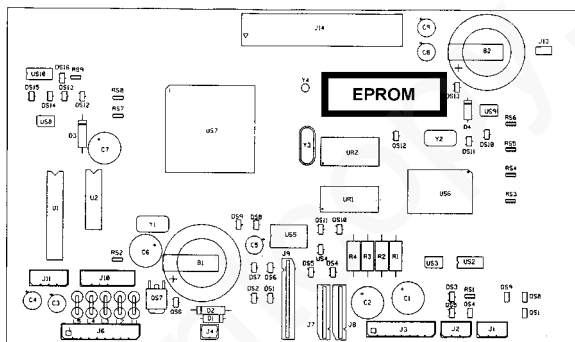

Fig. 7-19
- 2) Flip the basement upside down (steps 1 through 4 of sect. 7.2.3) and replace the EPROM (Fig. 7-19):